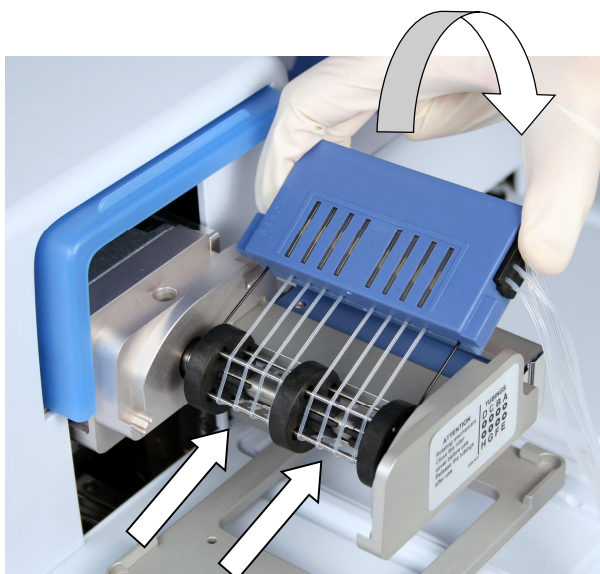

Figure 4-15. Inserting the upper part of the dispensing cassette
3. Take a firm grip on the upper part of the dispensing cassette with your right hand and carefully pull the tubes around the pump rotor until the upper part reaches and fits into the upper part slots of the pump body (Figure 4-15). Insert into the slots. Hold onto the instrument firmly with your other hand.